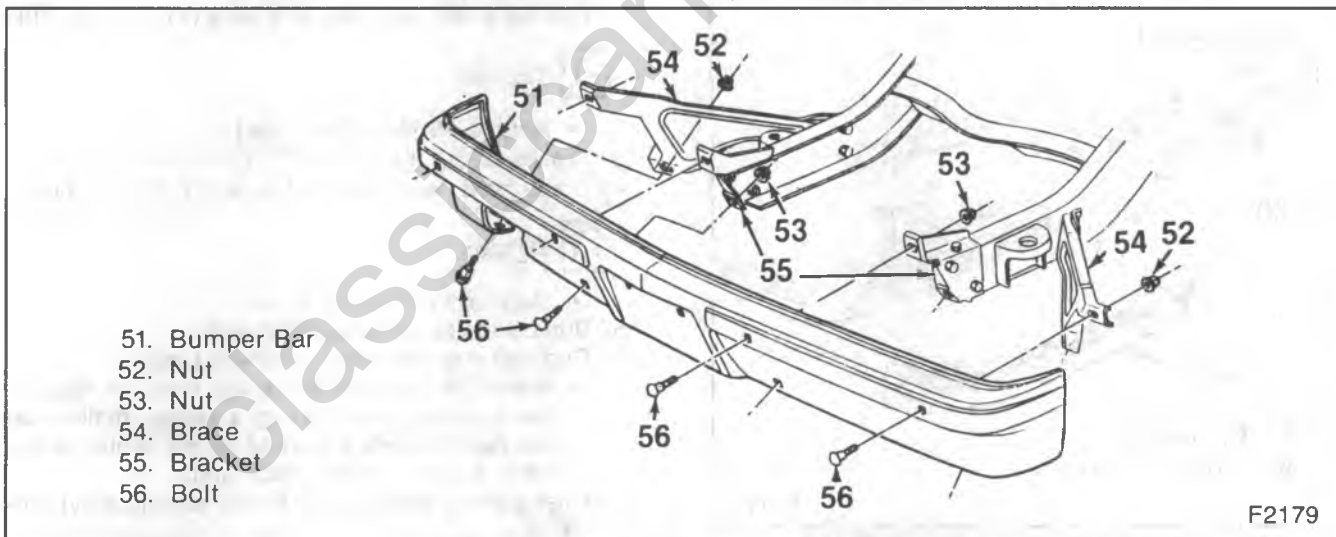
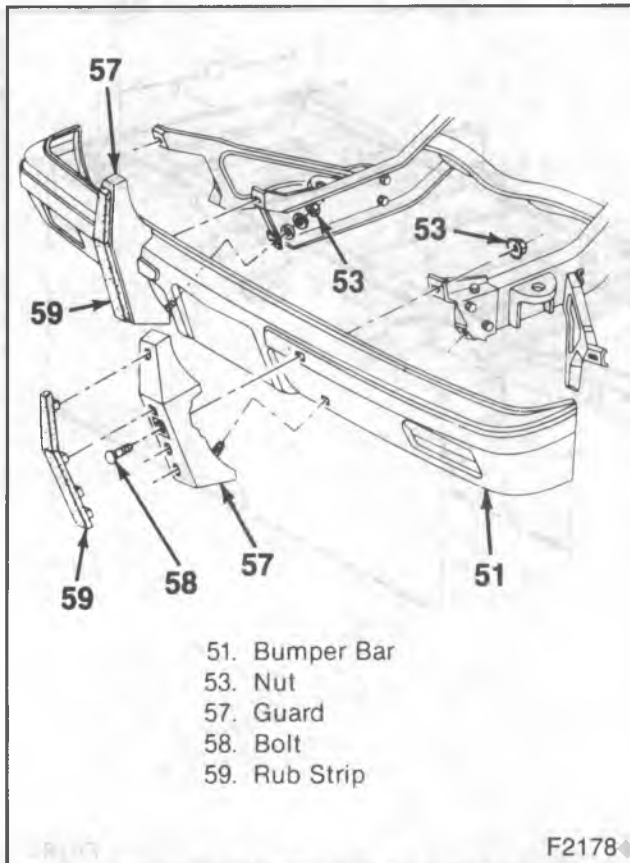

Figure 4—R/V Front Bumper Components
Figure 5—R/V Front Bumper Guards
↔ Remove or Disconnect (Figures 4 through 7)
1. Brace to bumper nuts (52) (figure 4).
2. Bracket to bumper nuts (53).
4. Guard assemblies (where used) (figure 5).
↔ Install or Connect (Figures 4 through 8)